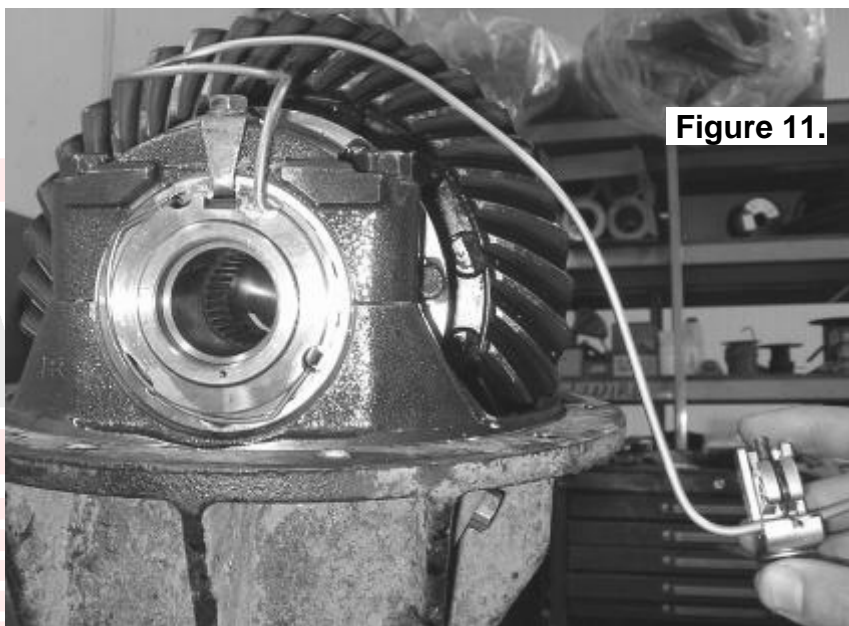

Figure 11.
- Without using sharp, jagged tools such as pliers (your hands are the best tool for this job), bend the seal housing tube on the outside of the housing to approximate the finished profile. This will allow the tube to be trimmed to a length that would allow it to protrude from the bulkhead fitting. (See Fig. 11.) .